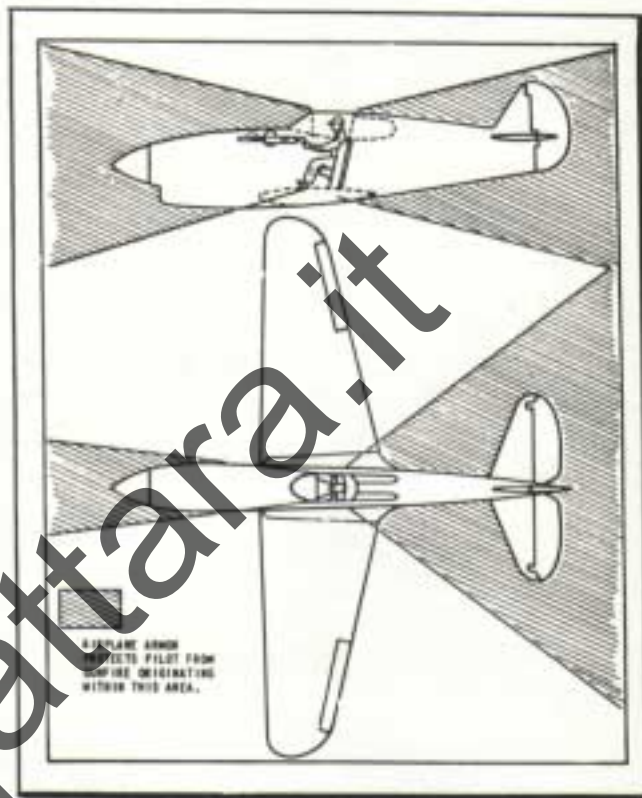

Figure 1 - Angles of Armor Protection
(3) Coolant: Ethylene glycol
d. Pilot Protection. - Front and rear armor protection sufficient to withstand enemy fire by direct right angle hit is provided for the pilot. Enemy fire originating within the areas graphically illustrated in figure 1 will not reach the pilot.